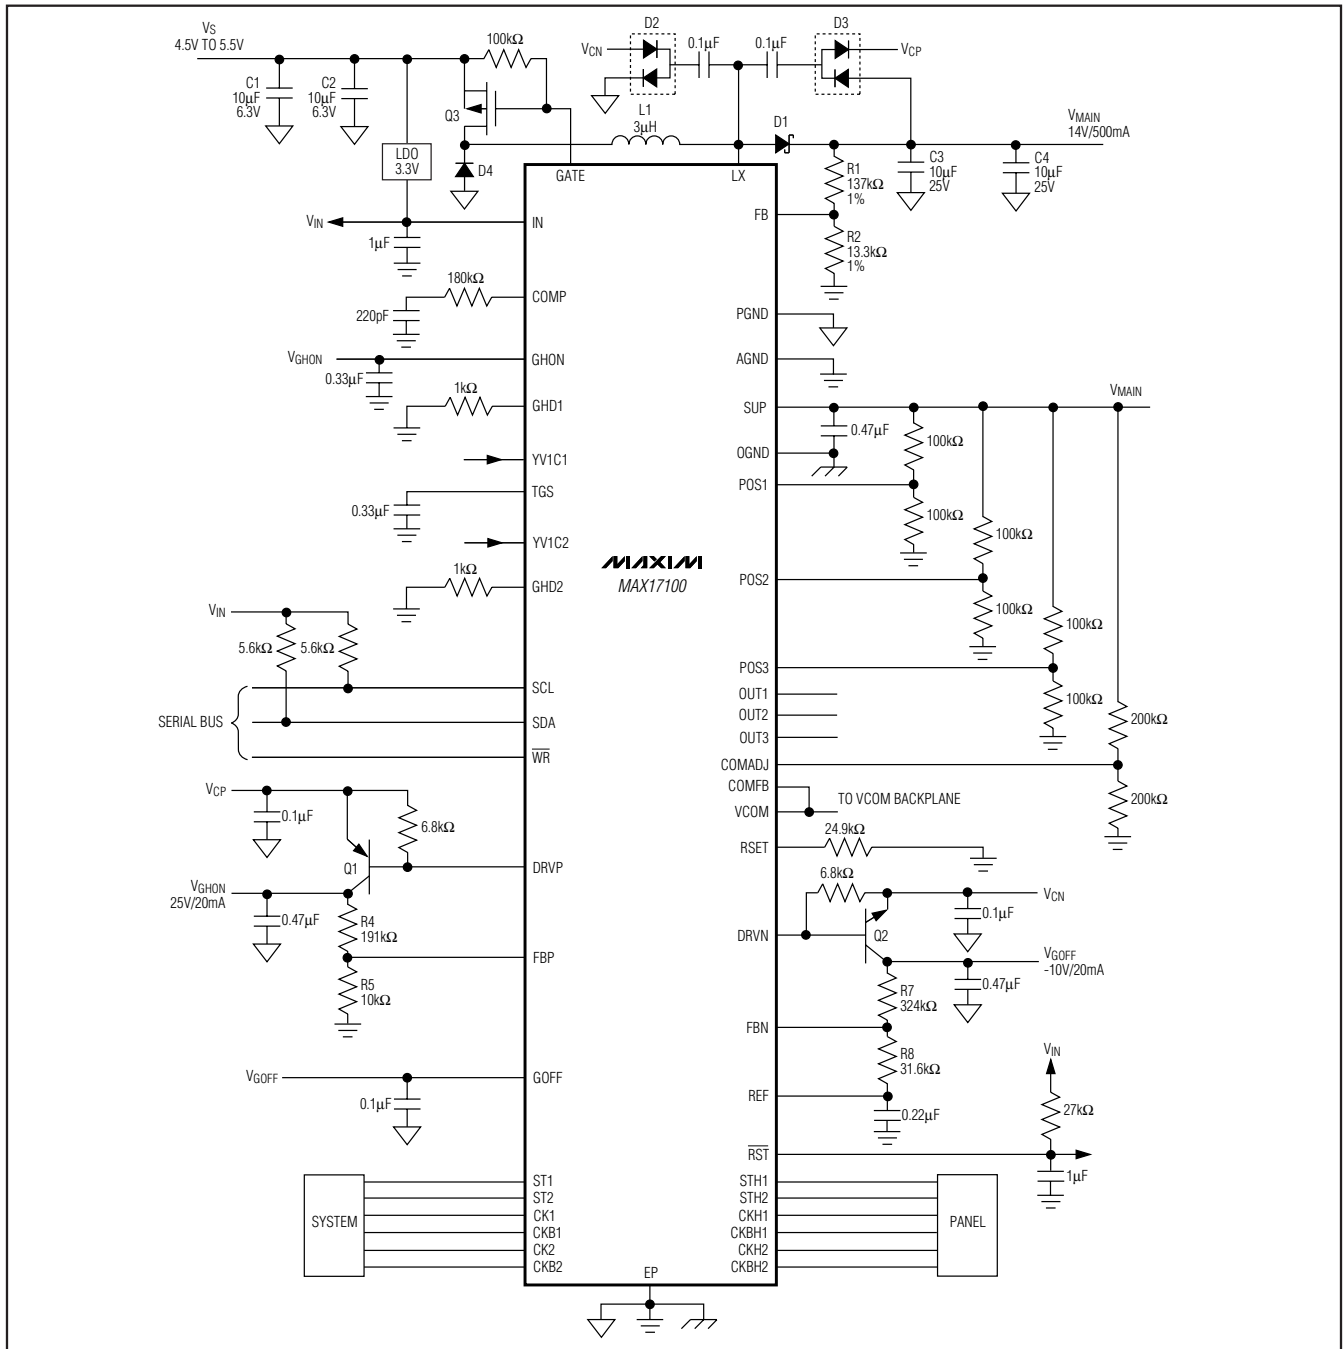
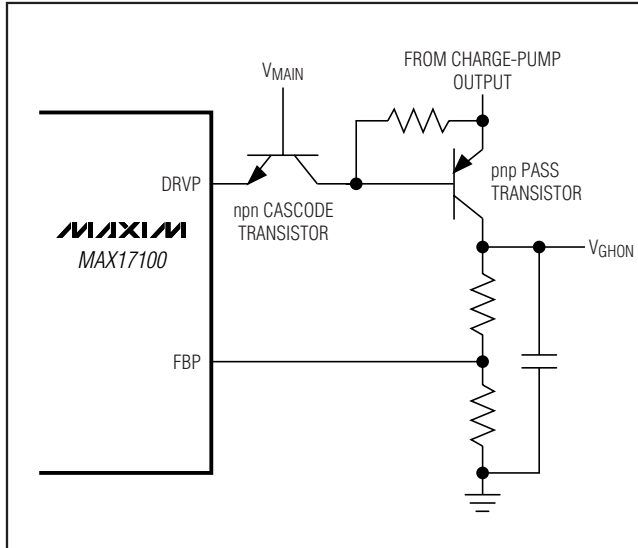
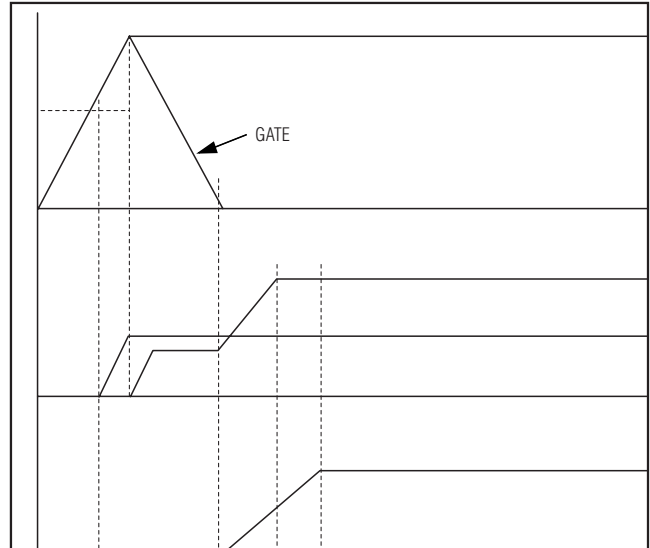

Figure 2. Typical Operating Circuit
Figure 5. Using Cascaded npn for Charge-Pump Output Voltages > 36V
Figure 6. Linear Regulator Controls the Intermediate Charge-Pump Stage
(Circuit of Figure 2, $V_S = 5V$, $V_{MAIN} = 14V$, $V_{GHON} = 25V$, $V_{GOFF} = -10V$, $T_A = +25^\circ C$, unless otherwise noted.)
The MAX17100 typical operating circuit (Figure 2) is a complete power-supply system for TFT LCDs. The circuit generates a +14V source-driver supply and +25V and
-10V gate-driver supplies. The input-voltage range for the IC is from +2.5V to +6.0V. The listed load currents in Figure 2 are available from a +4.5V to +5.5V supply. Table 1 lists some recommended components and Table 2 lists the contact information of component suppliers.
The gate-on linear-regulator controller is an analog gain block with an open-drain n-channel output. It drives an external pnp pass transistor with a $6.8\text{k}\Omega$ base-to-emitter resistor (Figure 2). Its guaranteed base drive sink current is at least 1mA. The regulator including Q1 in Figure 2 uses a $0.47\mu\text{F}$ ceramic output capacitor and is designed to deliver 20mA at 25V. Other output voltages and currents are possible with the proper pass transistor and output capacitor. See the *Pass-Transistor Selection* and *Stability Requirements* sections. REG P is typically used to provide the TFT-LCD gate drivers' gate-on voltage. Use a charge pump with as many stages as necessary to obtain a voltage exceeding the required gate-on voltage (see the *Selecting the Number of Charge-Pump Stages* section). Note the voltage rating of DRVP is 36V. If the charge-pump output voltage can exceed 36V, an external cascode npn transistor should be added as shown in Figure 5. Alternately, the linear regulator can control an intermediate charge-pump stage while regulating the final charge-pump output (Figure 6). REG P is enabled after the GATE voltage reaches the gate-on threshold voltage (1.5V typ). Each time it is enabled, the controller goes through a soft-start routine that ramps up its internal reference DAC in 128 steps.
The gate-off linear-regulator controller (REG N) is an analog gain block with an open-drain p-channel output. It drives an external npn pass transistor with a $6.8\text{k}\Omega$ base-to-emitter resistor (Figure 2). Its guaranteed base-drive source current is at least 1mA. The regulator including Q2 in Figure 2 uses a $0.47\mu\text{F}$ ceramic output capacitor and is designed to deliver 20mA at -10V. Other output voltages and currents are possible with the proper pass transistor and output capacitor (see the *Pass-Transistor Selection* and *Stability Requirements* sections). REG N is typically used to provide the TFT-LCD gate drivers' gate-off voltage. A negative voltage can be produced using a charge-pump circuit as shown in Figure 2. REG N is enabled after the GATE voltage reaches the gate-on threshold voltage (1.5V typ). Each time it is enabled, the control goes through a soft-start routine that ramps down its internal reference DAC from V_{REF} to 250mV in 128 steps.